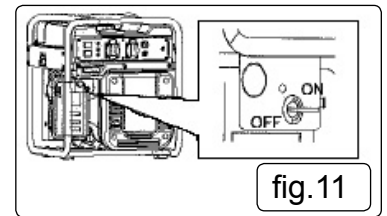

fig.11
- 4.10.2. Turn the fuel cock knob to "ON" fig.11.